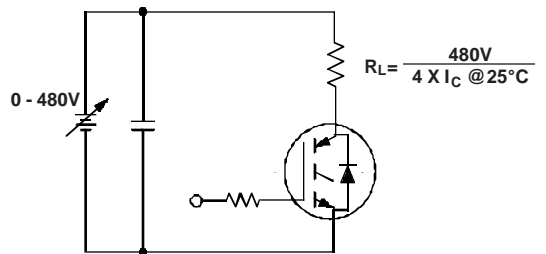

Figure 20. Pulsed Collector Current Test Circuit
- ① Repetitive rating; $V_{GE}=20V$, pulse width limited by max. junction temperature. (See fig. 20)
- ① Repetitive rating: $V_{GE}=20V$; pulse width limited by maximum junction temperature (figure 20)